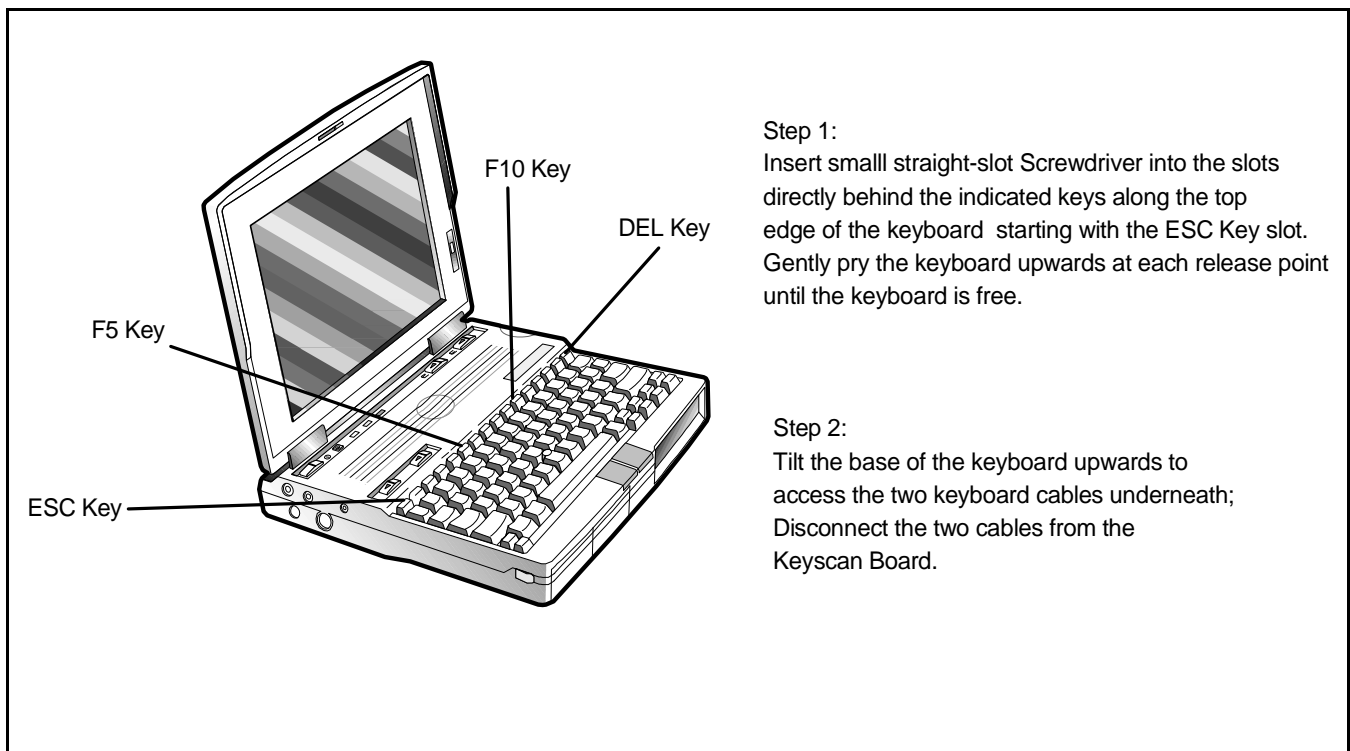

Figure 5-6 Keyboard Assembly, Removal/Replacement
3. As shown in Figure 5-6, the top edge of the keyboard is held in place by three pairs of plastic tabs. Insert a small straight slot screwdriver into the slots along the top edge of the keyboard as shown in Figure 5-6. Gently tilt the screwdriver forward and allow the keyboard to lift upwards.